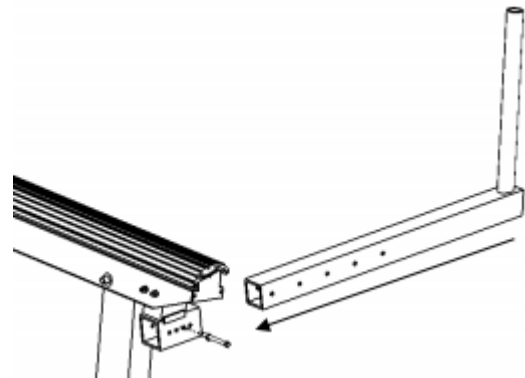

Figure 18
1. Insert the Guide Pole into the Guide pole Mounting Bracket so that the Guide Pole arm is facing outward and upward as shown in Figure 18.
3. Attach one (1) Flat Washer to one (1) Hex Bolt and insert into the mounting hole.
4. Attach one (1) Flat Washer, one (1) Lock Washer, and one (1) Hex Nut to the protruding end of the Hex Bolt and fasten with appropriate wrench until secure.
5. Repeat this step three (3) more times, once for the opposite end of the Bunk, and twice for the second Bunk.